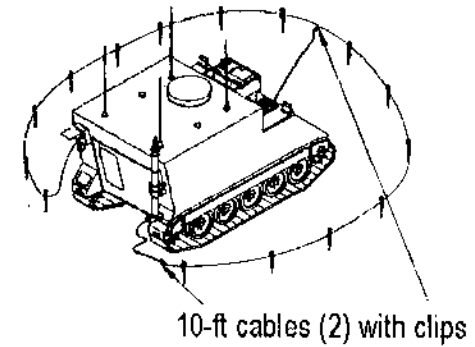

Figure 9 - A typical installation of the SWGK
3) Surface Wire Grounding Kit (SWGK) - Also known as the Surface Wire Ground System, it was designed primarily for use with systems requiring high mobility/quick installation and teardown operation. It consists of 15 ten-inch stakes installed in a circular pattern and interconnected with a 3/16-inch steel cable. The SWGK is available in the Army inventory under the official nomenclature of Grounding Kit, MK-2551 A/U, NSN: 5820-01-263-1760 (see figure 9).